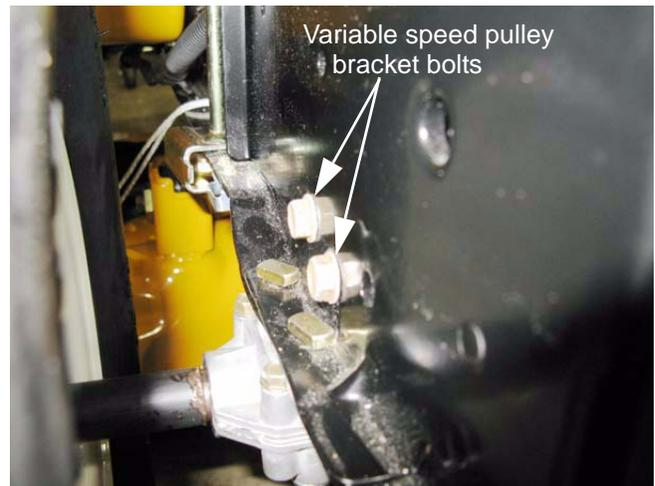

Figure 6.44
7. Loosen, then remove the bolts that hold the variable speed pulley bracket to the frame using a 1/2" wrench. See Figure 6.44.